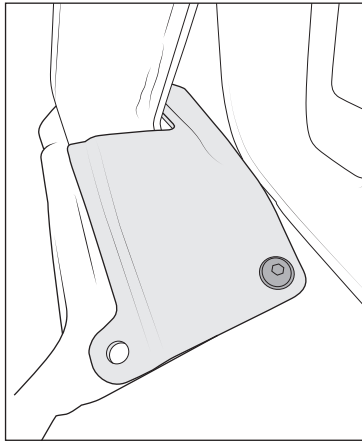

Figure 16
3. Install the tube closeout stampings to the main weldment. Loosely retain them to the weldment with one M8 button head bolt per side of each stamping (fig. 16).